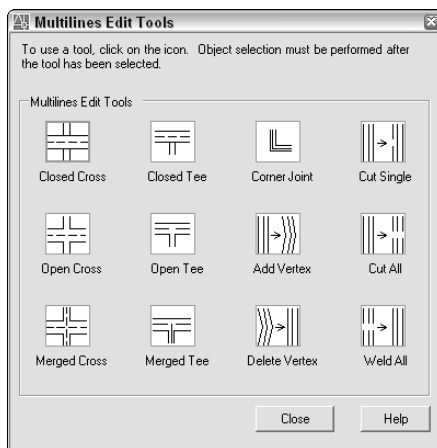

Figure 16-35: The Multilines Edit Tools dialog box.
3. At the Specify start point or [Justification/Scale/Style]: prompt, choose the From object snap. At the Base point: prompt, choose ① in Figure 16-35. (If necessary, press Tab until you get the Intersection object snap.) At the <Offset>: prompt, type @0,-10' ↵.
To edit multilines, you use the MLEDIT command. To start MLEDIT, double-click the multiline (or choose Modify ⇨ Object ⇨ Multiline) to open the Multilines Edit Tools dialog box, shown in Figure 16-35.